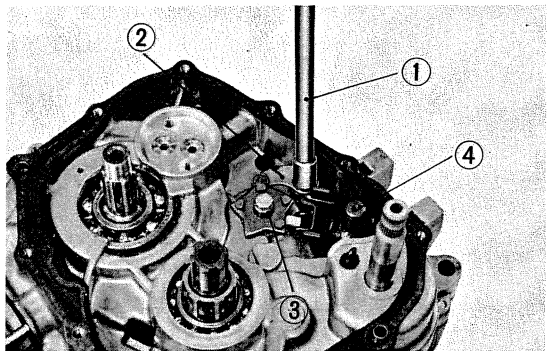

Fig. 73 ① 6 mm, T-handle box wrench ② Gear shift drum stopper ③ Gear shift cam ④ Gear shift spindle
- 4) Unscrew the 6mm gear shift drum stopper bolt and remove the drum stopper. (Fig. 73)
- 5) Unscrew the 6mm gear shift cam bolt and remove the shift cam. (Fig. 73)
- 6) Remove the gear shift pedal and then pull out the gear shift spindle. (Fig. 73)